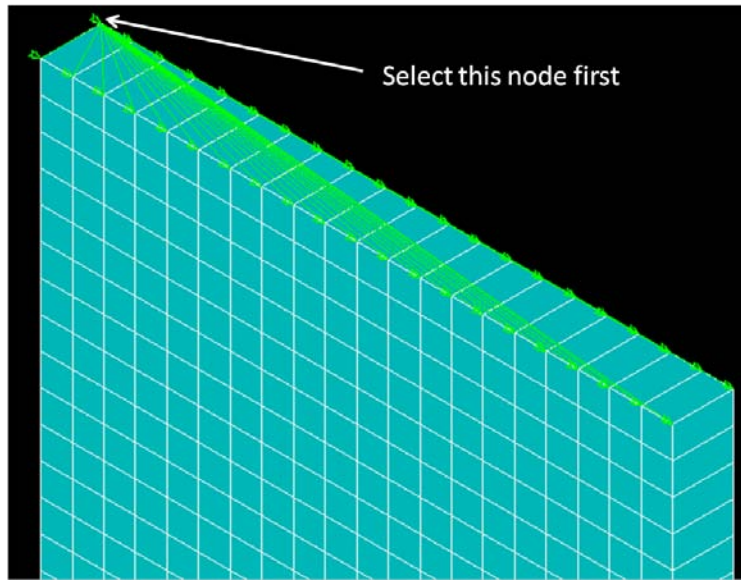

Figure 13. Coupling constraint on top surface of plate.
- Pick all of the nodes on the top surface of the plate, making sure that the first node picked is the node indicated in Figure 13. Click **OK**.
As a consequence of the coupling constraint, a displacement in the y-direction applied to the node highlighted in Figure 13 will result in the same y-displacement applied to the remaining nodes in the constraint definition.
- Select **Preprocessor** → **Loads** → **Define Loads** → **Apply** → **Structural** → **Displacement** → **On Nodes** and select the node indicated in Figure 13.
4. From the graphics window, select the node that had the specified displacement (refer to Figure 13). Click **OK**.